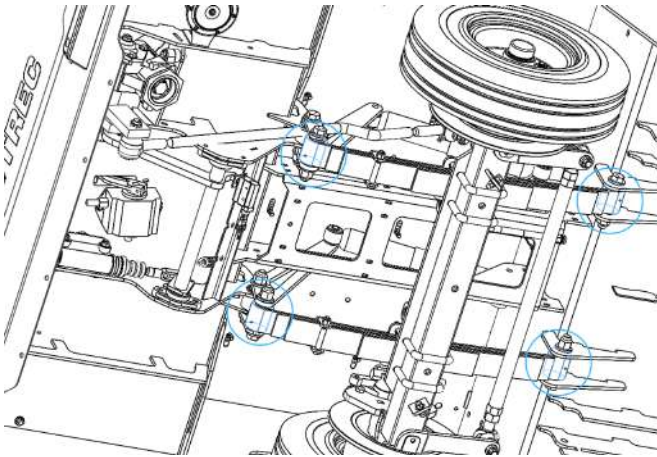

Figure 37. Front Suspension Mounting Tabs.
- Front suspension mounting tabs (2) (see Figure 37).